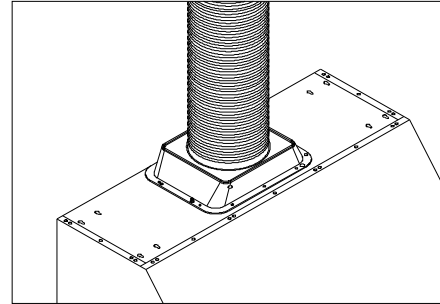

Figure 15
5. Use 8" aluminum or steel pipe (follow building codes in your area) to connect the ducting transition on the hood to the ductwork above. Use duct tape to seal and secure joints as shown in Figure 15. Slide the duct cover onto the hood.